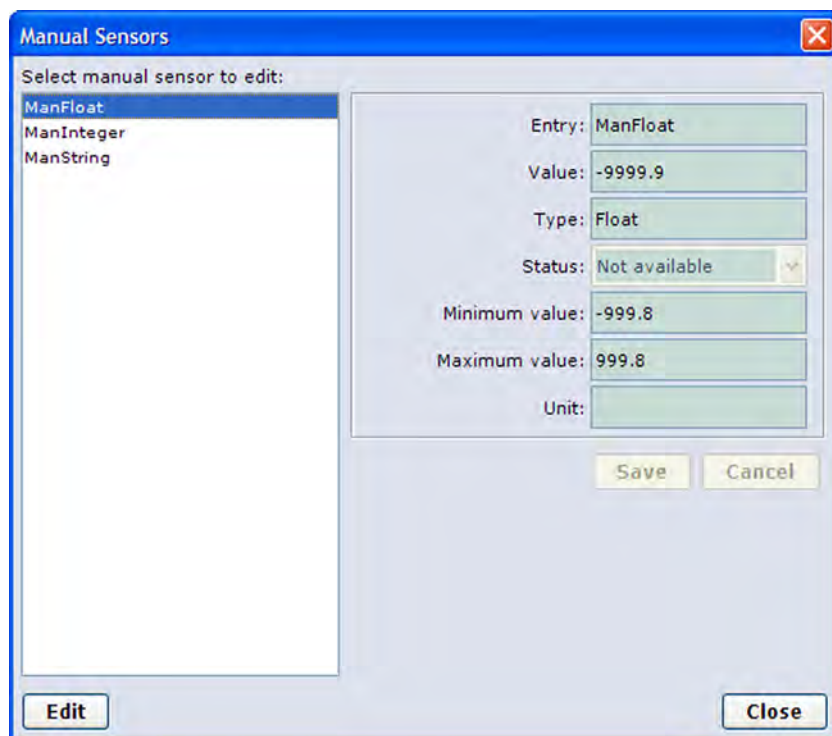

Figure 39 Manual Sensor Details
3. Select **Edit**. The information on the sensor is displayed as shown in Figure 39 on page 77.
1. On the **Settings** menu, select **Manual Sensors**. The list of configured manual sensors is displayed (see Figure 39 on page 77).